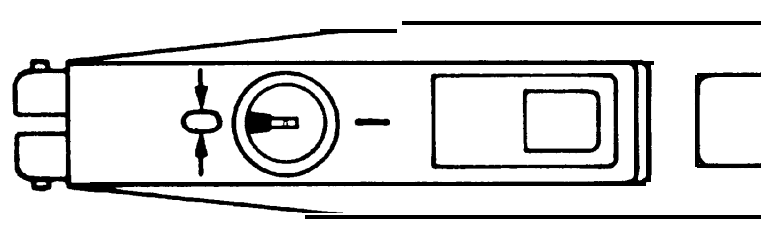

Fig. 2
6. The switch-on lock must be reset to position „0“ in order to eliminate the risk of fire after completing soldering work (refer to Fig. 2).